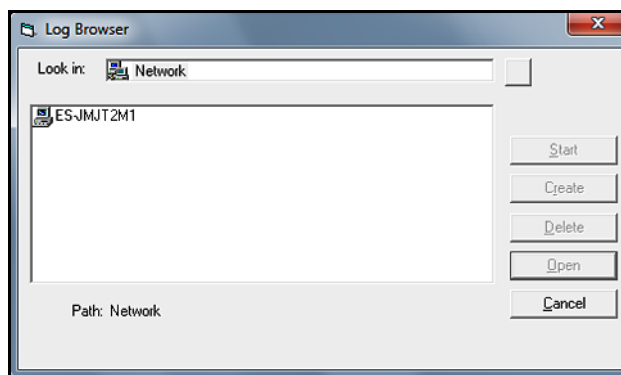

Figure 75: Create a Meter Log
- d. Double click on *meter logs* to move to the network level shown in *Figure 75* below.
- e. At the dialog box shown in *Figure 75* above, click [Create] button to create a new meter log.